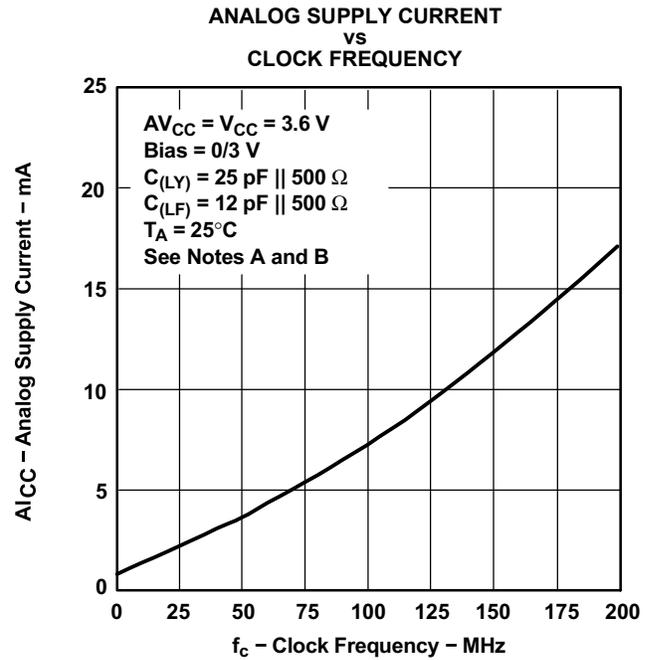
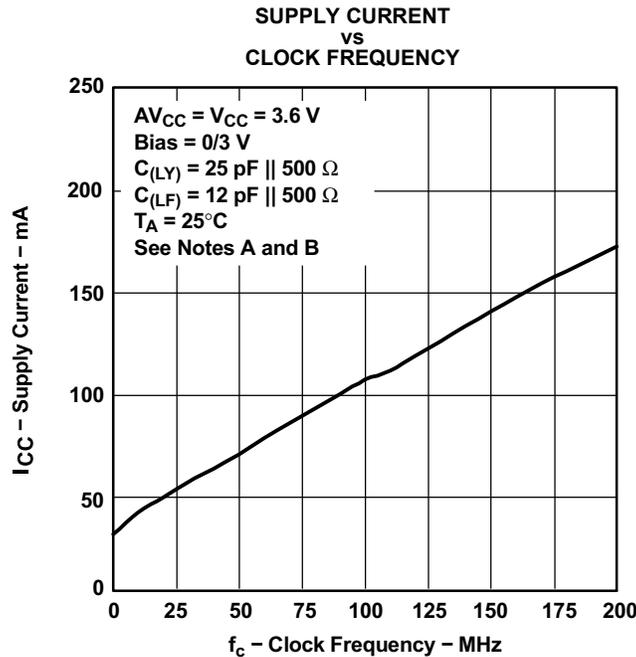

Figure 9.
Figure 10.
- (1) For conditions shown as MIN or MAX, use the appropriate value specified under recommended operating conditions.
(2) For dynamic  $I_{CC}$  vs Frequency, see Figure 9 and Figure 10.